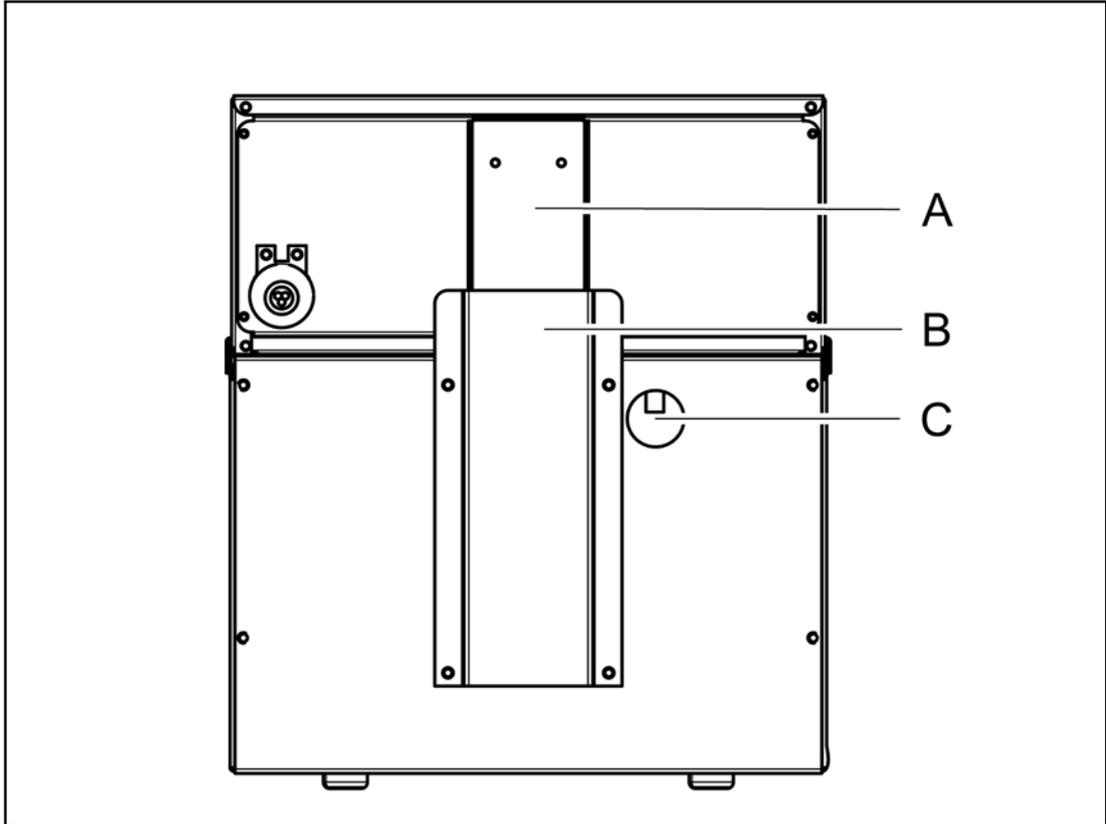

Fig 2
Only qualified or trained personnel should use this appliance. Always drain food before frying. Never allow water into the oil. Before first use, clean the tank. Remove the batter plate, then lift the control head out by sliding the rear guide Fig 2 (A) up and out of the channel (B). Using warm water and mild detergent clean the tank and dry thoroughly.
This appliance is fitted with a safety thermostat to cut off the power in the event of a fault. If the green neon illuminates but the element does not heat, re-set the safety thermostat by pushing up the red button located through the access hole in the back panel Fig 2 (C). The fryer must be cool before the safety thermostat can be re-set.